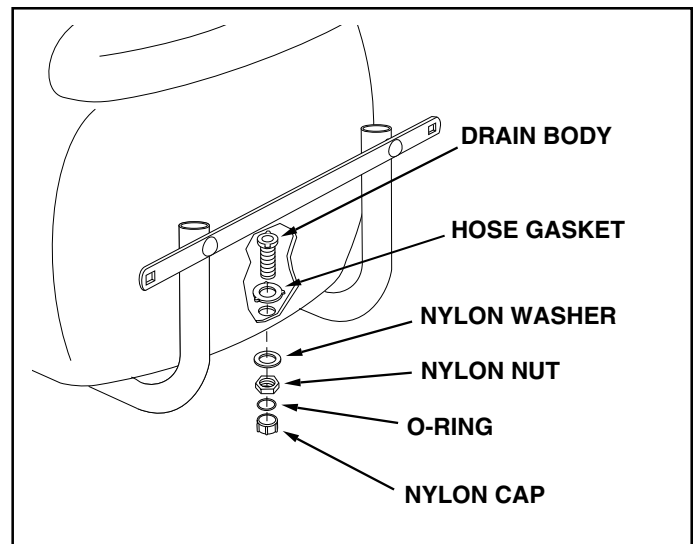

FIGURE 7 REAR VIEW
- Install the drain in the bottom of the tank as shown in figure 7. Place a 3/4" garden hose gasket onto the drain body and insert the drain body down through the hole in bottom of the tank. Outside the tank, assemble the nylon washer and then the nylon nut onto the drain body. Tighten the nut securely enough to prevent leaking, being careful not to damage the plastic parts. Place the O-ring inside the nylon cap and screw the cap onto the end of the drain body.